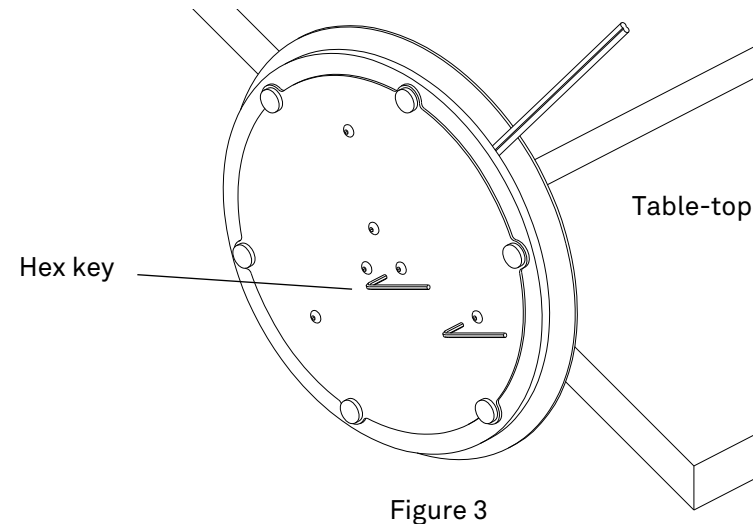

Figure 3
4. Gently lay the stem of the fixture on a flat surface such as a table top (Figure 3). It is important the edge of the base cover does not bear the weight of the fixture. Tighten the three stem mounting screws, followed by the three base cover mounting screws, with the provided hex key.